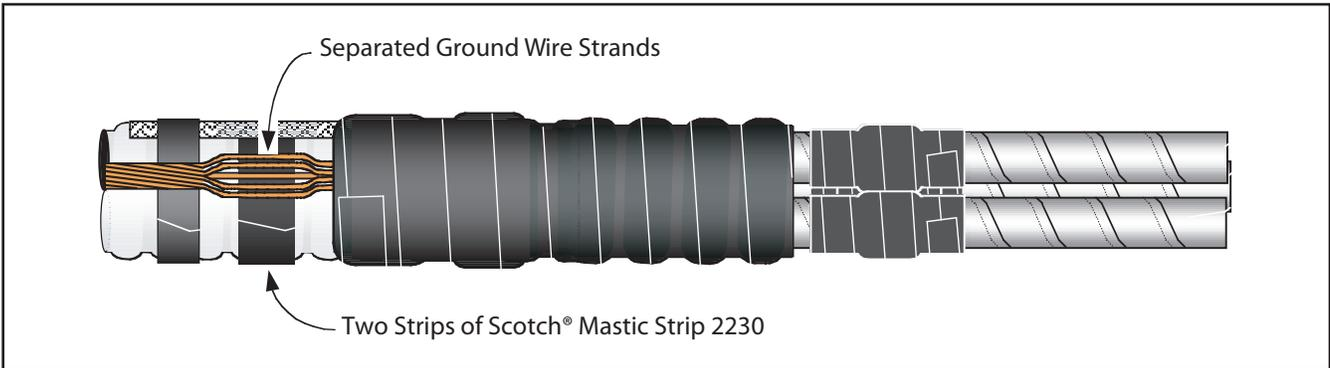

Figure 9
2.12 Separate ground wire strands over strips of Scotch® Mastic Strip 2230 as shown (Figure 9).